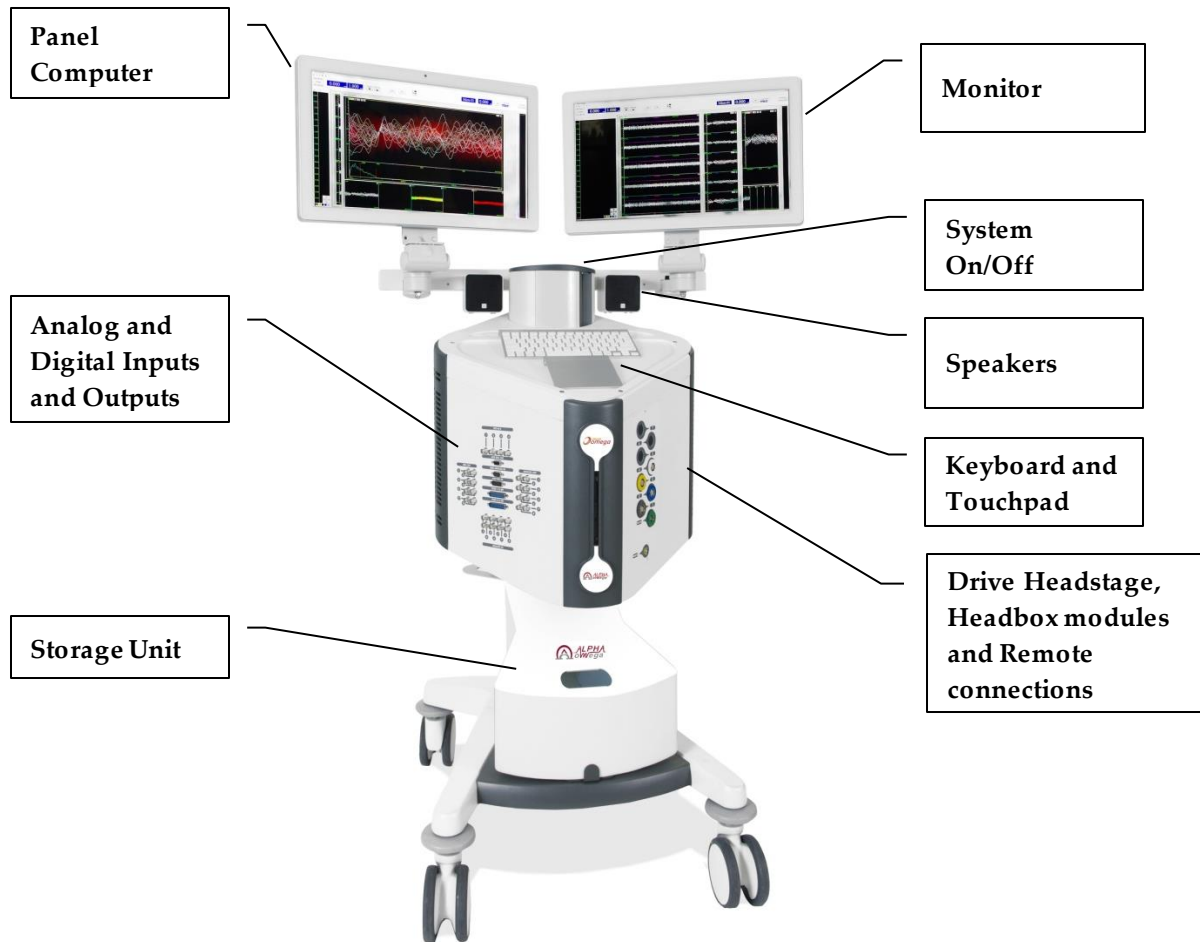

Figure 9: Main Unit and Trolley Front View
1. Turn on the unit from the trolley (Figure 9).